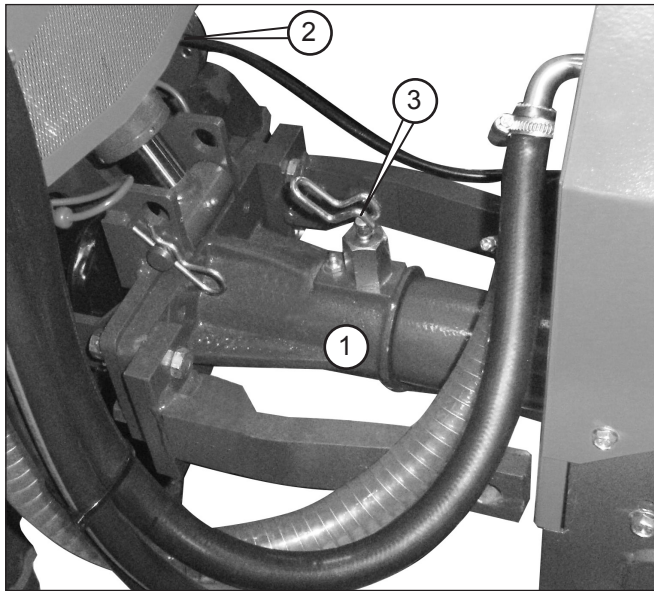

Fig. 19 - PTO connection
- 3) Rotate the latch pin lever (3 Fig. 19) so that the sleeve and the PDF connection are a single body. This means that the connection is correct.